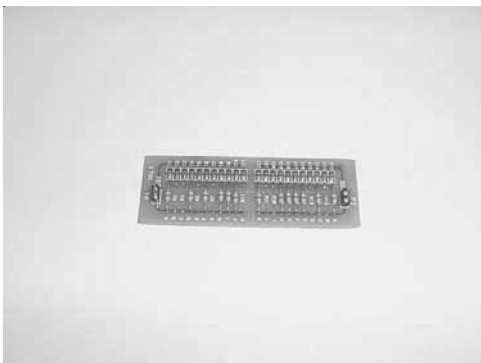

Figure 3-6
- Insert the two prongs of the calibration board marked 20% into the humidity sensor. Figure 3-6.